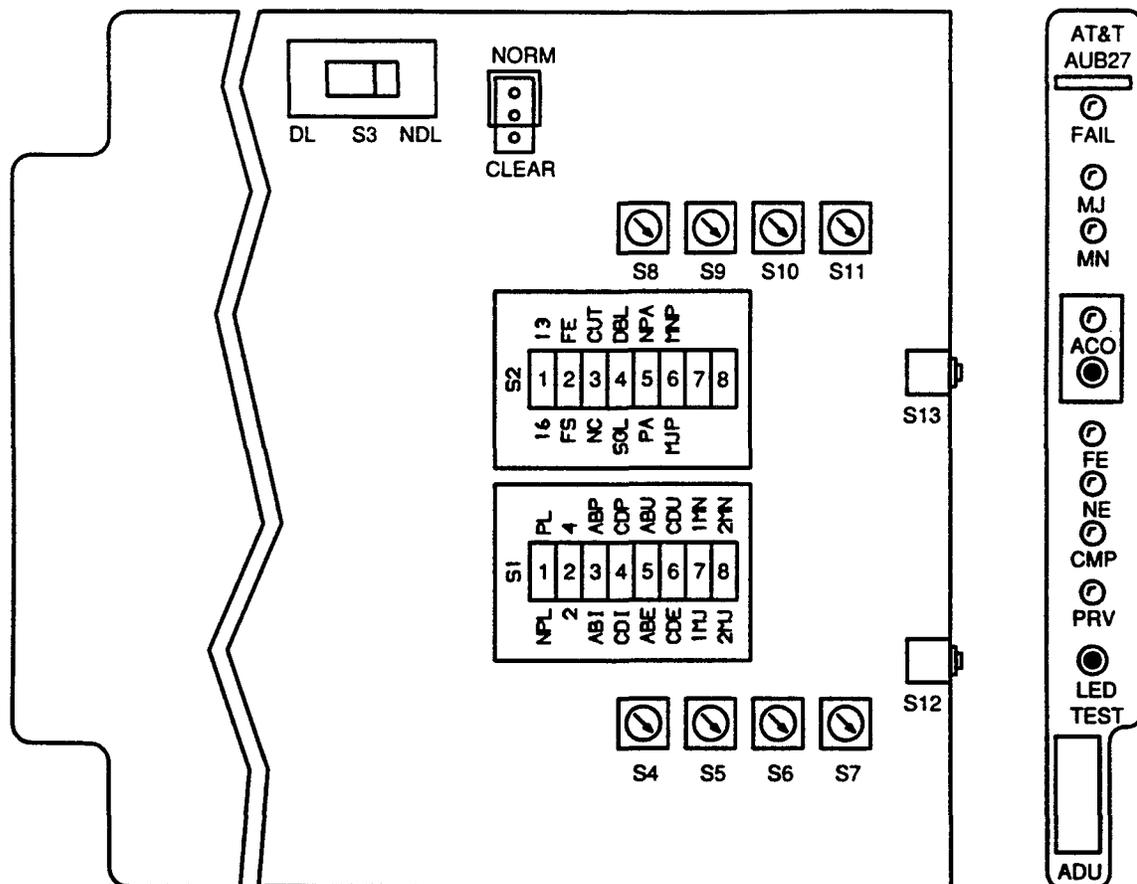

Figure 5—AUB27 RT ADU Option Switch Settings
18. At RT on AUB26 (FIG. 4) or AUB27 (FIG. 5 and TABLE A) ADU circuit pack, set switches on option switch S1 as follows: Press position 3 toward ABI (for shelf group AB in-service), and position 4 toward CDI (for shelf group CD in-service). On AUB27 set option switch S2 position 3 toward CUT. Proceed to Step 23.
22. At RT on AUB26 (FIG. 4) or AUB27 (FIG. 5 and TABLE A) ADU circuit pack, set option switch S1 as follows: Press position 3 toward ABI (for shelf group AB in-service). On AUB27 set option switch S2 position 3 toward CUT.
28. At RT, on AUB27 ADU (FIG. 5 and TABLE A), set NORM/CLEAR option plug to CLEAR position (bottom and middle pins).
31. At RT, remove AUB27 ADU (FIG. 5 and TABLE A) and set NORM/CLEAR option plug to NORM (top and middle pins).